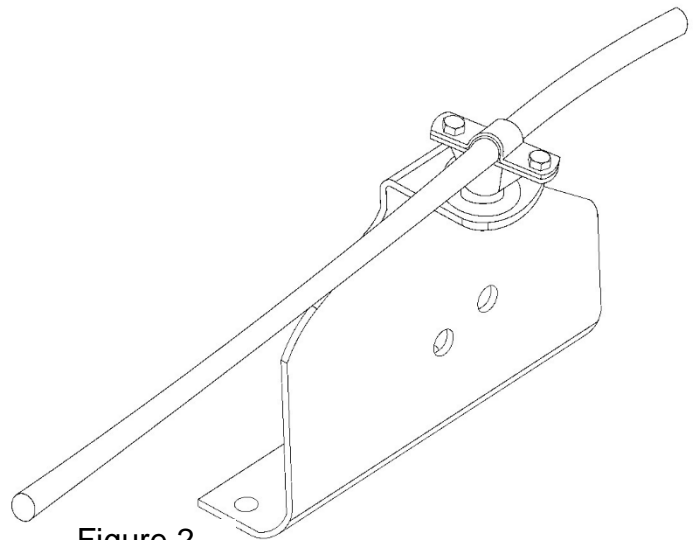

Figure 2.
- Place the aluminium wire into the lightning rod wire fastener, securing it with two M6x12 screws (Figure 2).